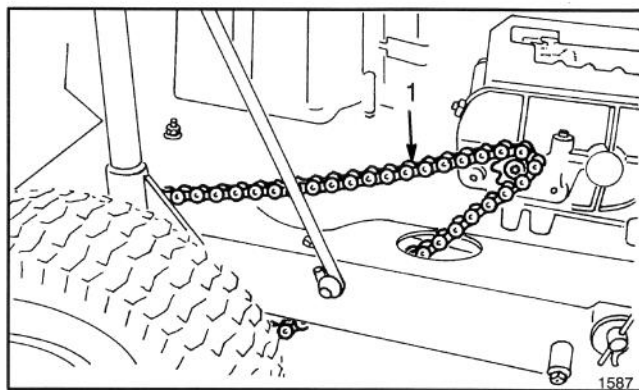
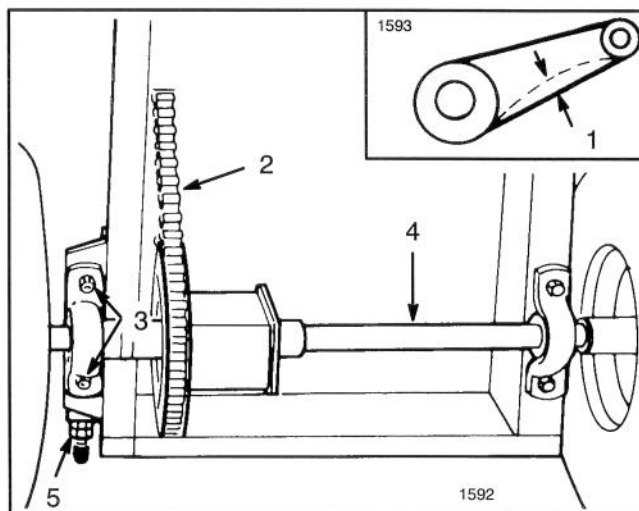

Figure 23
Figure 24
2. Check deflection of drive chain by lifting up and pressing down on chain with moderate pressure at mid span (Fig. 23). There should be 1/8 of an inch (3 mm) total deflection (Fig. 24). If deflection is not as specified, an adjustment is required—steps 3-13.
7. Loosen four flange nuts securing pillow blocks w/differential axle to the rider frame (Fig. 24).
8. Loosen rear jam nut on chain tensioner (Fig. 24).
11. Since differential axle must be parallel to rear of chassis, measure distance from center of pillow blocks to rear of chassis (Fig. 24). Difference between the two measurements must not exceed 1/8 inch. If difference exceeds 1/8 inch, differential axle is not parallel with chassis; therefore it must be readjusted.